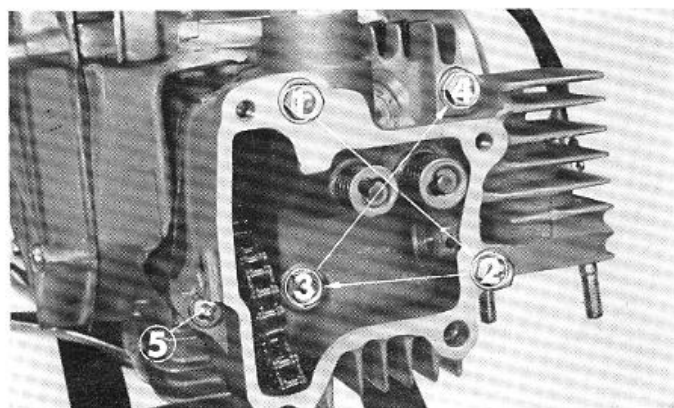

Fig. 2-20 Torquing sequence of cylinder head
**Torque the nuts diagonally and with a uniform force. (Fig. 2-20)**